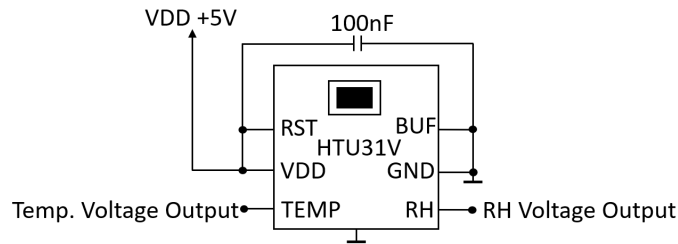

Figure 4 HTU31V Typical Application Circuit
- When BUF pin is connected to GND, as represented in *Figure 4 HTU31V Typical Application Circuit*, voltage output buffer is on, this is the recommended configuration for most applications.
If reset feature is not used, RST pin must be connected to VDD, as represented in *Figure 4 HTU31V Typical Application Circuit*.